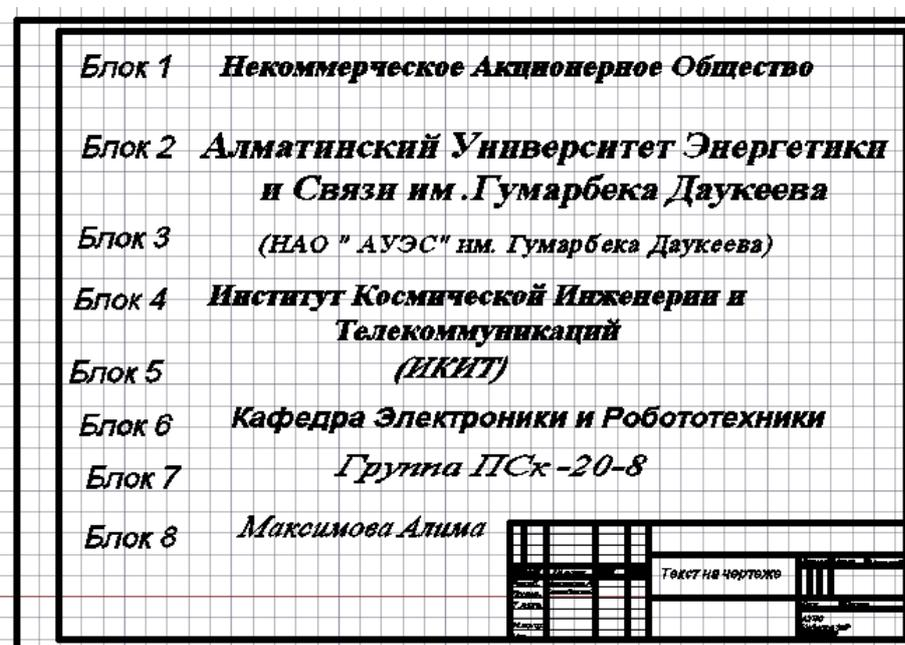

Figure 3.4 – Completed drawing
3.2.5 Then, after filling out the table of title blocks, we will fill the drawing itself with the following text, the parameters of which are specified in tables 1.1, 1.2, 1.3, and an example is shown in figure 3.4.